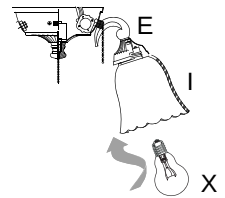

Fig. 9
9. Install four candelabra base 40 watt max. bulbs (X) included. [Fig. 9]